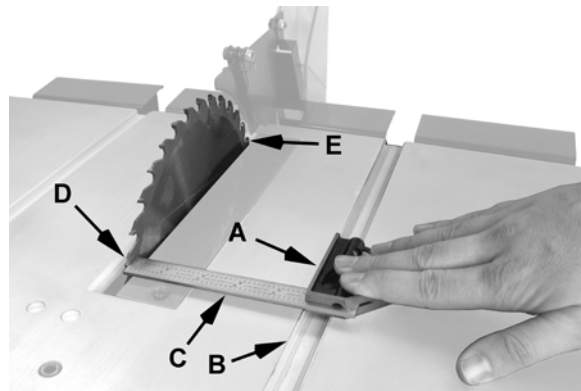

Figure 21
Referring to Figure 21:
4. Replace the old blade with a new one, *making certain that the teeth are pointing down at the front of the table* (refer to D, Fig. 21).